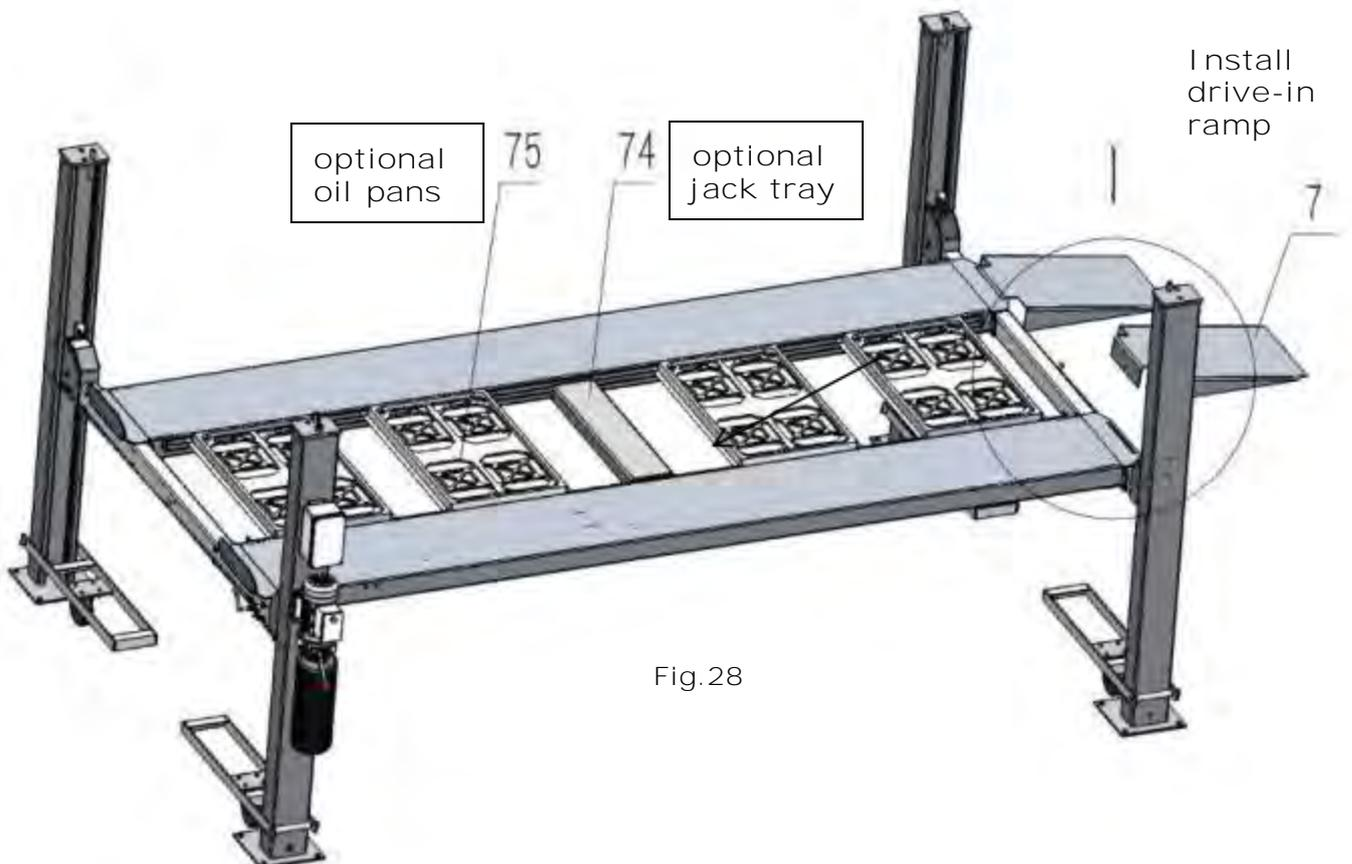

Fig.28
N. Install drive-in ramp, optional jack tray and optional oil pans (See Fig. 28). then attach the drive-in ramp.